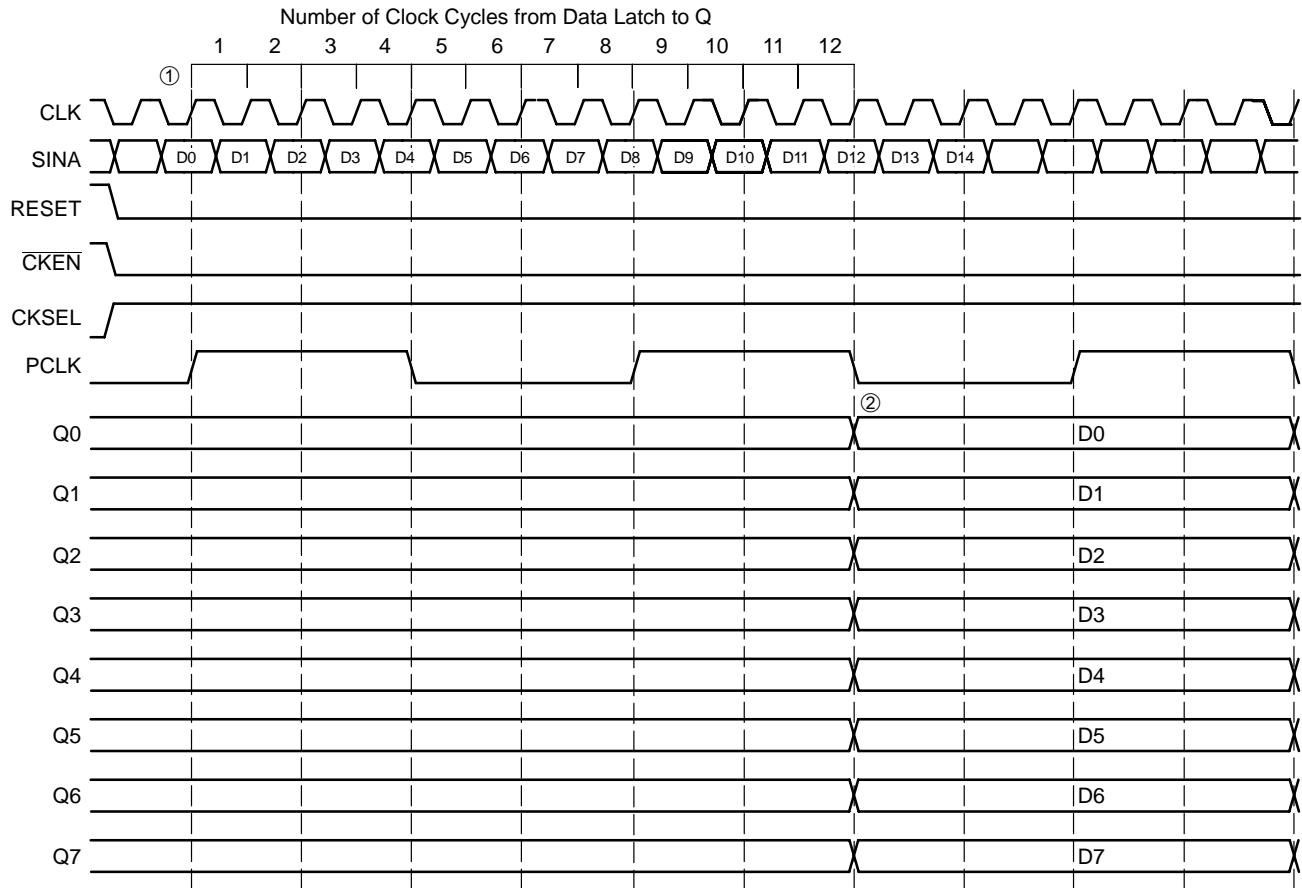

Figure 8. Timing Diagram A. 1:8 Serial to Parallel Conversion with CKSEL HIGH
Similarly, for CKSEL HIGH operation, the data is latched only on the rising edge of the clock and the time from when the serial data is latched① to when the data is seen on the parallel output② is 12 clock cycles (see Figure 8).